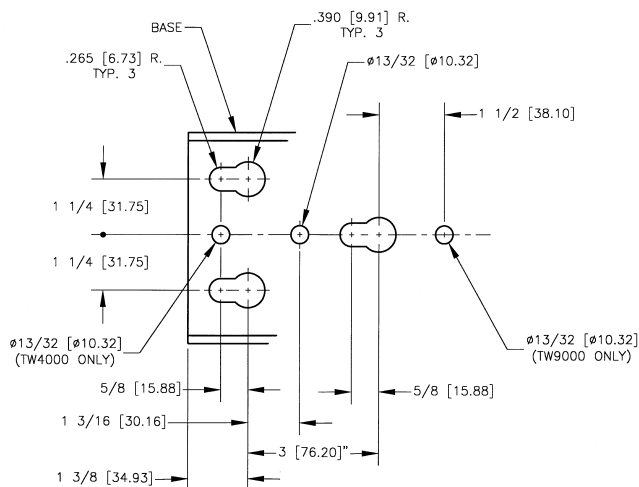

FIG. 1
4. Your winch is equipped with keyhole slots in the base for use with quick mounting shoulder studs, if desirable. (See FIG. 1) If you wish to use quick mount studs, (DL Accessory No. 6365) they should be mounted securely into the winch stand. After positioning the winch on the studs, a 3/8" bolt should be placed in one of the other holes available to keep the winch securely in position.